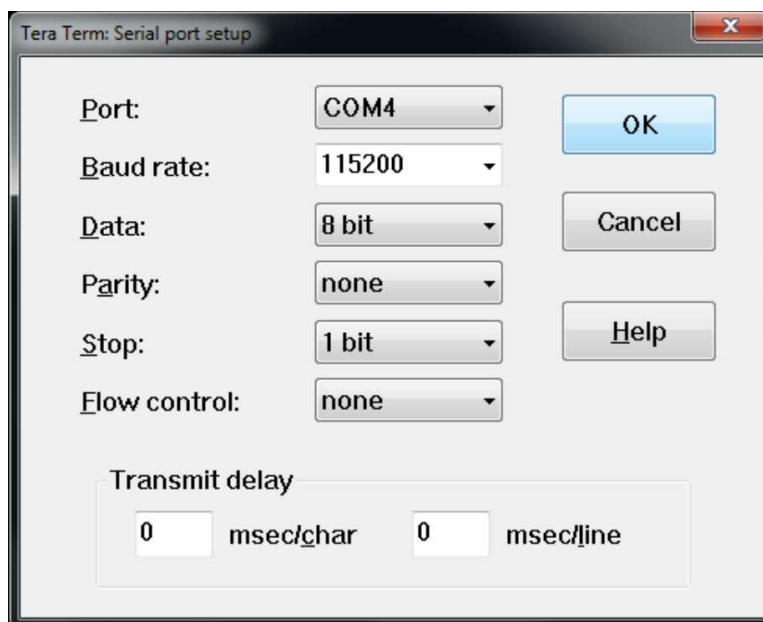

Figure 1-6. Configure Settings
5. Configure the setting as shown in Figure 1-6. Click OK to continue.